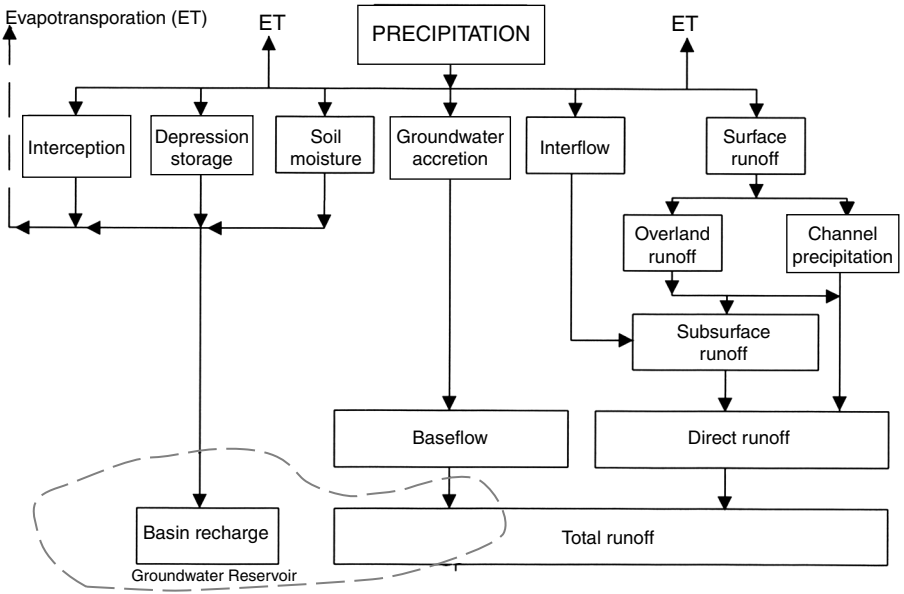

FIGURE R-6 Runoff generation.
**Runoff generation** The process by which runoff occurs as a result of a rainstorm. There are several theories of the rainfall–runoff relationship or methods to compute runoff. *See, e.g.,* rational method; unit hydrograph method. *See also* dynamic watershed concept; Horton overland flow concept; sub-surface stormflow. *See* Figure R-6.